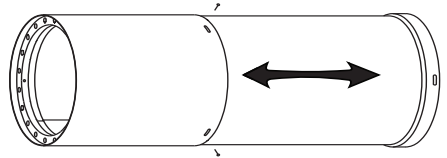

Figure 8
6. Telescoping Pipe (Figure 8)